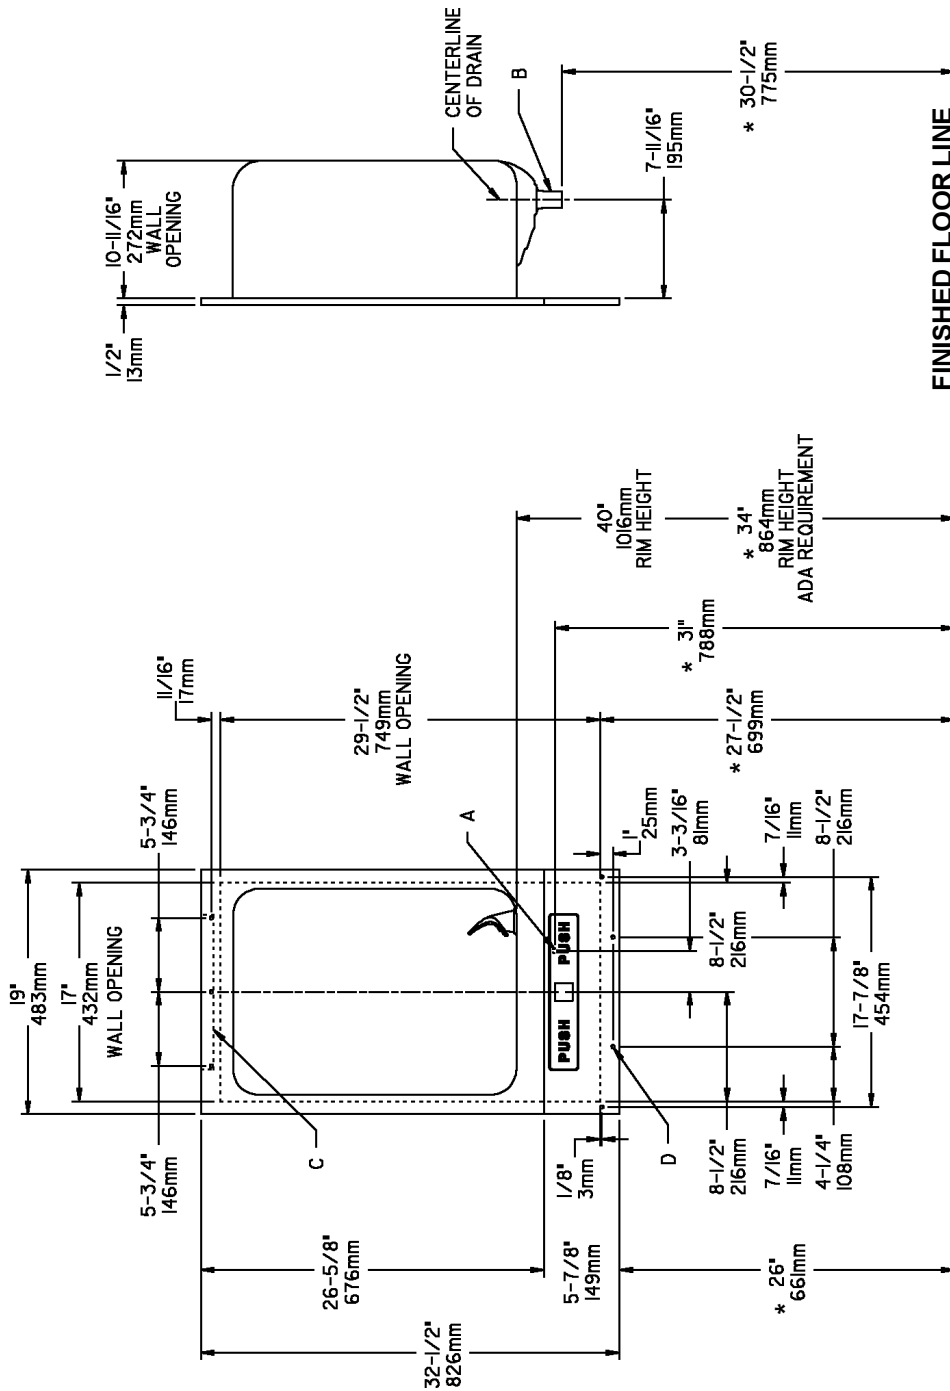

FIG. 1
1. Prepare wall opening(s) and attach wall hanger bracket(s) for the fountain (and cuspidor when applicable) using dimensions shown in Figures 1 and 2.